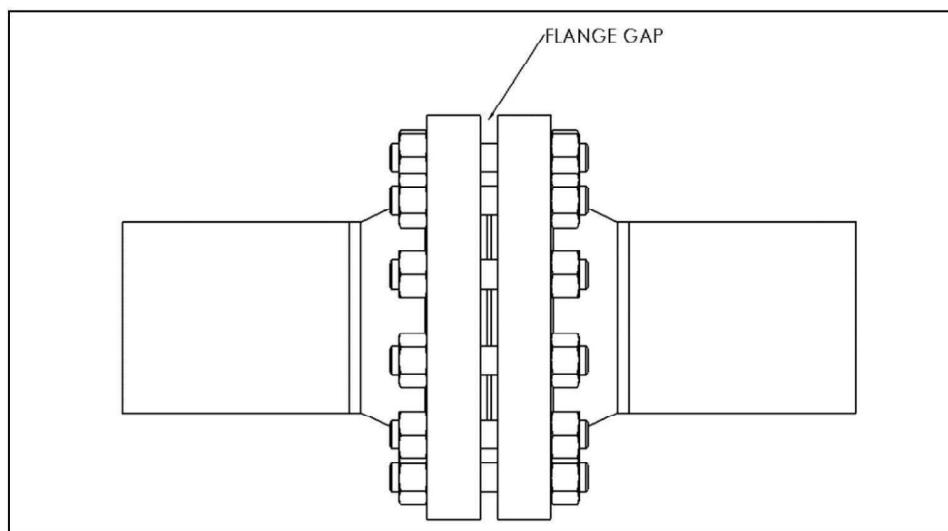

Figure 1
- The Flange Repair+Ring **will NOT work** for insulating flanges. The Flange Repair+Ring **will only work** for flat face flanges with the addition of Inject-a-Bolts. Contact PLIDCO for additional information on this product. Make sure there is at least 1/16-inch (1.5mm) gap between the flanges (shown in Figure 1). This will ensure injected sealant can reach the studs. Please contact PLIDCO for options if there is no gap.